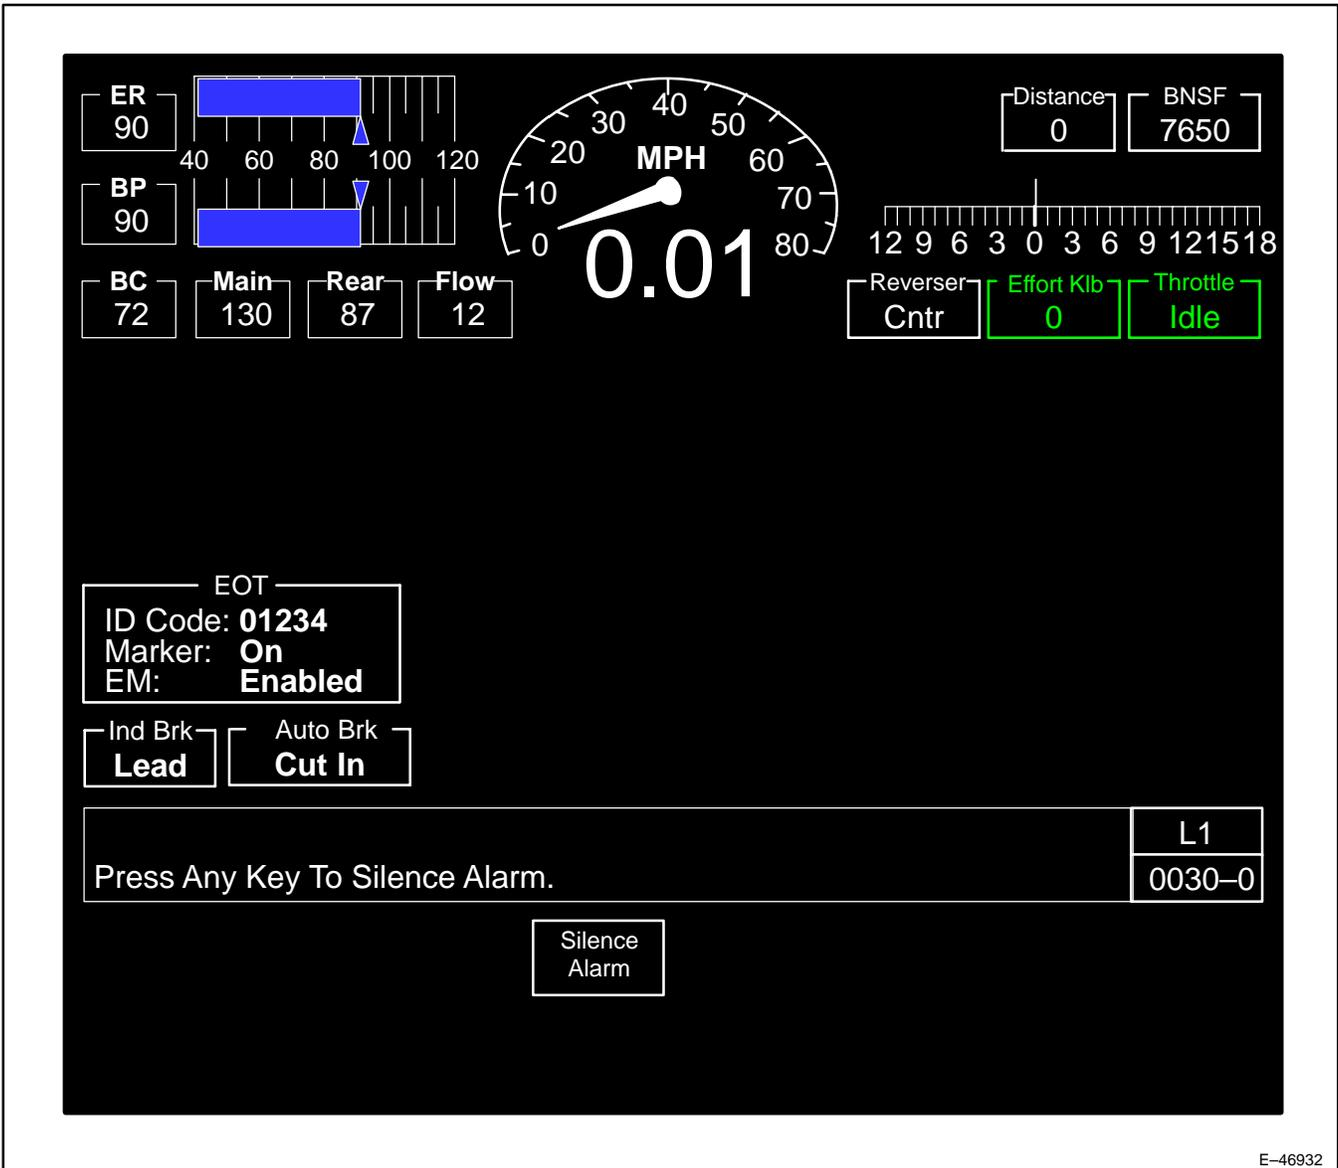

Figure 29. Alarm Silence Screen (0030-0).
When the CCA system detects a fault, a message describing the fault will appear in the message area of the SDIS screen. Depending on the fault, the alarm bell may ring for 30 seconds or ring continuously. Some computer-detected faults do not ring the bell. The Alarm Silence screen (Figure 29) is displayed on the SDIS when the bell is ringing. Pressing the “silence alarm” soft key cancels the ringing of the bell, cancels the Alarm Silence screen, and returns the SDIS to the screen that was displayed prior to the alarm message. Thirty (30) second faults may be allowed to time out, in which case the bell stops ringing and the Alarm Silence screen disappears.